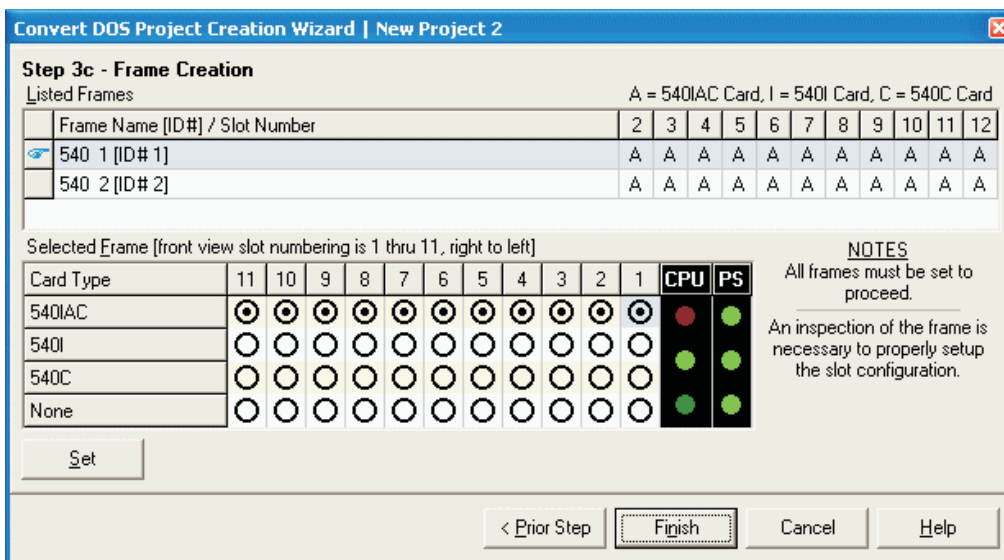

Figure 11 - Frame Creation Slots Configuration
**Step 3c - Frame Creation - Slots Configuration** (See Figure 11)